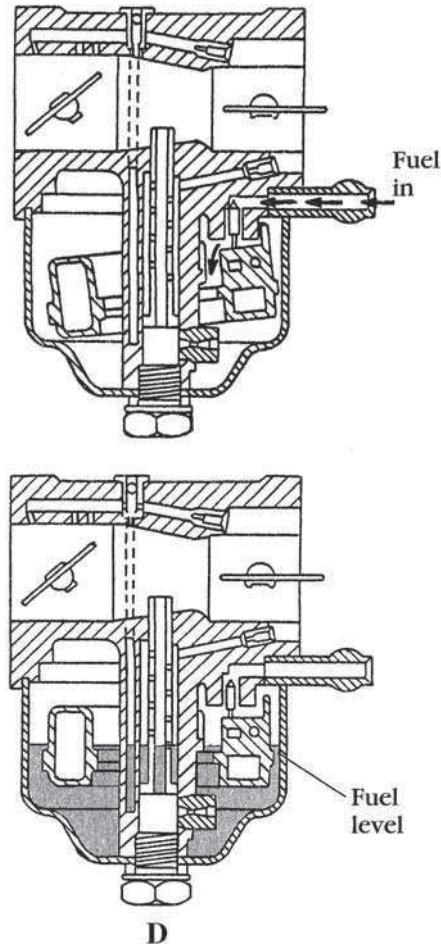

FIG. 4-1 (Cont.). A float-operated inlet valve, or the needle and seat, maintains a constant fuel level in the instrument (D). Briggs & Stratton Corp.
FIG. 4-1. *At wide throttle angles, fuel enters the venturi through the main pick-up tube, better known as the high-speed nozzle. (A) An air bleed (“main air jet”) emulsifies the fuel, breaking it into droplets prior to discharge.* Briggs & Stratton Corp.
FIG. 4-1 (Cont.). When the throttle blade is closed, the low-speed circuit discharges into the primary idle port. As the blade opens, it uncovers secondary idle ports (C). Wider throttle angles generate flow through the main jet. Briggs & Stratton Corp.